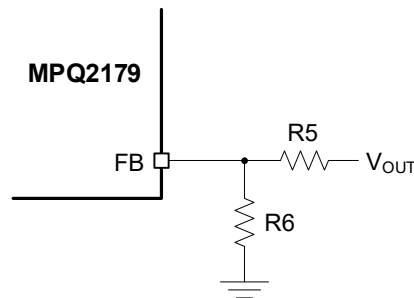

Figure 1: Feedback Divider Network with Adjustable Output
8. The external resistor divider sets the output voltage (V_{OUT}) (see Figure 1).